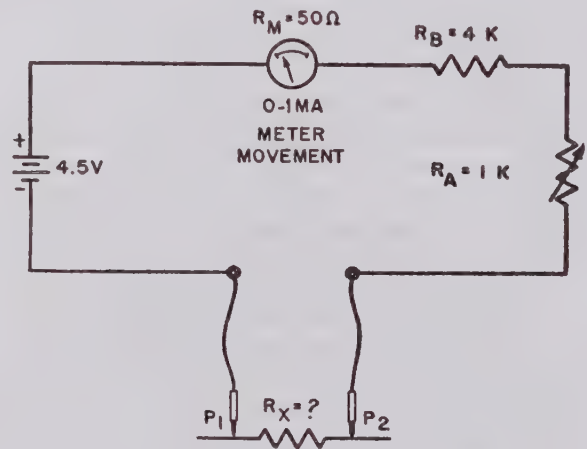

Figure 30. Basic circuit of series-type ohmmeter.
a. In the basic ohmmeter circuit of figure 30, a 4.5-volt battery, a variable resistor, R_A , and a fixed resistor, R_B , are connected in series with a milliammeter. The two leads labeled P_1 and P_2 represent test prods which are connected across the resistance to be measured, R_x . The meter is a 0- to 1-ma movement, requiring 1 ma of current for full-scale deflection, and the
e. When calibrating the meter scale of the ohmmeter in figure 30, the half-scale deflection point is marked 4,500 ohms. If the value of the unknown resistor, R_x , is twice the resistance of the ohmmeter, the total circuit resistance is tripled, and the current is reduced to one-third the full-scale deflection value. The meter pointer deflects to one-third full scale and corresponds to an R_x of 9,000 ohms.
g. The series-ohmmeter circuit cannot be used to measure accurately the low resistances of coils, chokes, and transformer windings, which are often 5 ohms or less. These low values of resistance are so crowded on the right-hand side of the meter scale that distinction between them is impossible. An example of this situation can be shown by using the calibration formula given above. Assume that the ohmmeter scale has 10 divisions with the same circuit conditions as in figure 30. At nine-tenths full-scale deflection, or one division removed from the 0-ohm position, the current is .9 ma. Using the calibration formula to determine the resistance measured with this deflection,
d. The entire meter scale can be calibrated by means of the formula given. The indicated resistance value increases progressively from left to right, being maximum for full-scale deflection. This is the reverse of the scale used with the series circuit of figure 30.